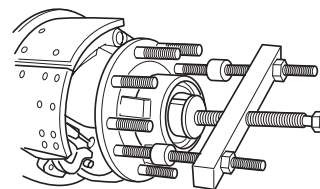

Figure 3
a. If the hub is difficult to remove because the seal is stuck on the spindle, use a mechanical puller to remove the hub (see Figure 3).